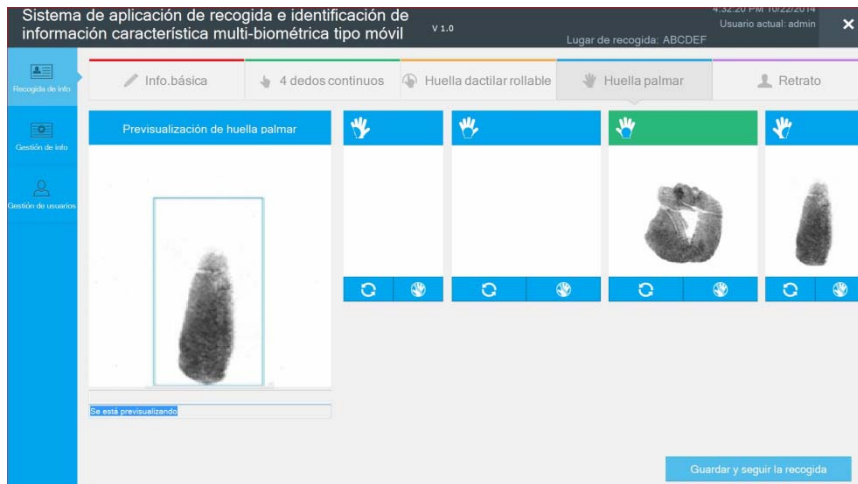

Figure5.4.3.1
3. When the lateral palm is collected, it is to put the lateral palm on the collecting instrument. After calibration of palm-print and put your hand lateral on the light place; when collection instrument light if off, you can remove your palm. System will automatically evaluate the quality of lateral palm-print. When collection quality is qualified, the collection of palm-print will automatically display the palm position; the effect of collected lateral palm is as shown in figure (as shown in figure 5.4.3.1)